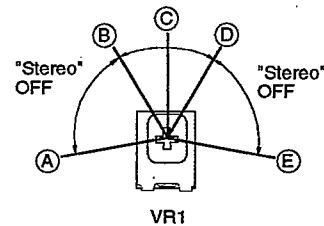

Fig. 4
2. Adjust VR 1 until stereo indicator lights up. Fix the arm of VR 1 as shown in Figure 4.